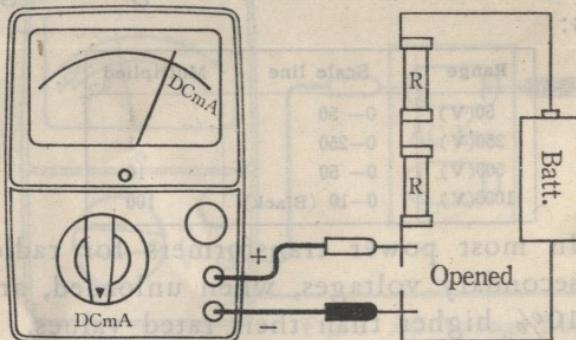

Fig. 4 - DC Current Measurement.
- c. Zero adjustment. Before taking a measurement, the test leads connected to the meter are shorted together. (Fig. 4, dotted line)